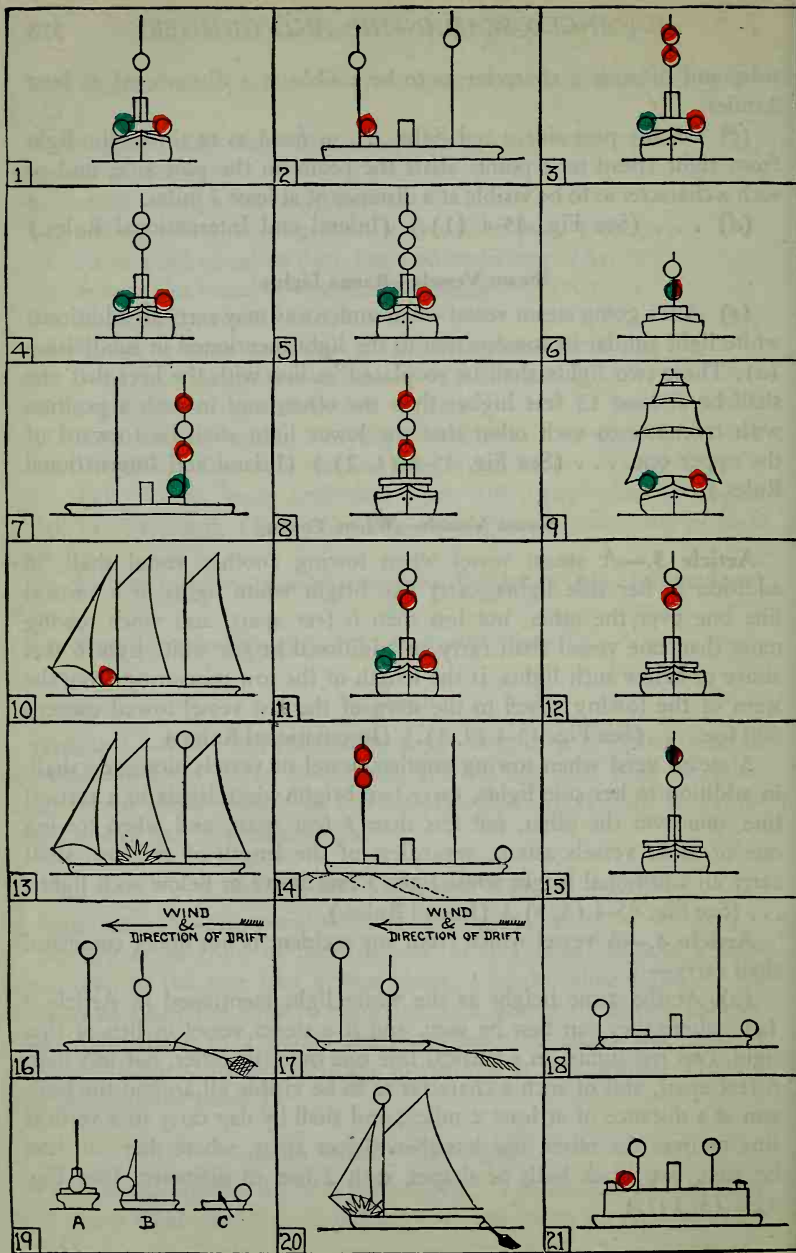

FIG. 45-4—Running lights of vessels.
(d) . . . (See Fig. 45-4 (1).) (Inland and International Rules.)
(e) A sea going steam vessel when under way may carry an additional white light similar in construction to the light mentioned in subdivision (a). These two lights shall be so placed in line with the keel that one shall be at least 15 feet higher than the other, and in such a position with reference to each other that the lower light shall be forward of the upper one. . . . (See Fig. 45-4 (1, 2).) (Inland and International Rules.)
**Article 3.**—A steam vessel when towing another vessel shall, in addition to her side lights, carry two bright white lights in a vertical line one over the other, not less than 6 feet apart, and when towing more than one vessel shall carry an additional bright white light 6 feet above or below such lights, if the length of the tow measuring from the stern of the towing vessel to the stern of the last vessel towed exceeds 600 feet. . . . (See Fig. 45-4 (4, 5).) (International Rules.)
A steam vessel when towing another vessel or vessels alongside shall, in addition to her side lights, carry two bright white lights in a vertical line, one over the other, not less than 3 feet apart, and when towing one or more vessels astern, regardless of the length of the tow, shall carry an additional bright white light 3 feet above or below such lights. . . . (See Fig. 45-4 (4, 5).) (Inland Rules.)
(a) At the same height as the white light mentioned in Article 2 (a), where they can best be seen, and if a steam vessel in lieu of that light, two red lights, in a vertical line one over the other, not less than 6 feet apart, and of such a character as to be visible all around the horizon at a distance of at least 2 miles; and shall by day carry in a vertical line one over the other, not less than 6 feet apart, where they can best be seen, two black balls or shapes, each 2 feet in diameter. (See Fig. 45-4 (3, 14).)
(b) in the same position as the white light mentioned in Article 2 (a), and if a steam vessel in lieu of that light, three lights in a vertical line one over the other not less than 6 feet apart. The highest and lowest of these lights shall be red, and the middle light shall be white, and they shall be of such a character as to be visible all around the horizon, at a distance of at least 2 miles. By day she shall carry in a vertical line, one over the other, not less than 6 feet apart, where they can best be seen, three shapes not less than 2 feet in diameter, of which the highest and lowest shall be globular in shape and red in color, and the middle one diamond in shape and white. (See Fig. 45-4 (7, 8).)
rarily exhibited in sufficient time to prevent collision. (See Fig. 45-4 (19C).) (Inland Rules.)
**Article 10.**—A vessel which is being overtaken by another, except a steam vessel with an after range light showing all around the horizon, shall show from her stern to such last-mentioned vessel a white light or a flare-up light. (See Fig. 45-4 (19A).) (Inland and International Rules.)
A vessel of 150 feet or upward in length when at anchor shall carry in the forward part of the vessel, . . . one such light, and at or near the stern of the vessel, and at such a height that it will be no less than 15 feet lower than the forward light, another such light. (See Fig. 45-4 (18, 19B).) (Inland and International Rules.)